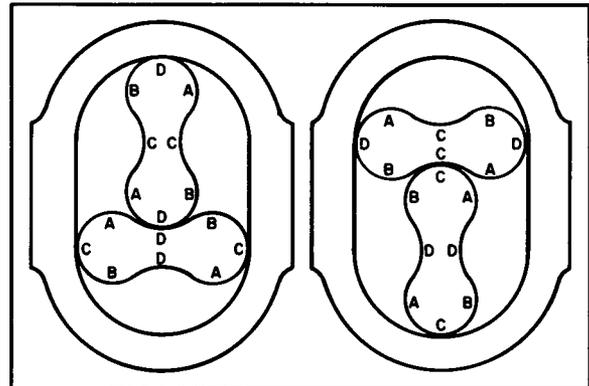

FIGURE 31
- w. When correct rotor timing has been established, the other interior rotor and air box clearances should be checked with feeler gages (see Fig. 31).